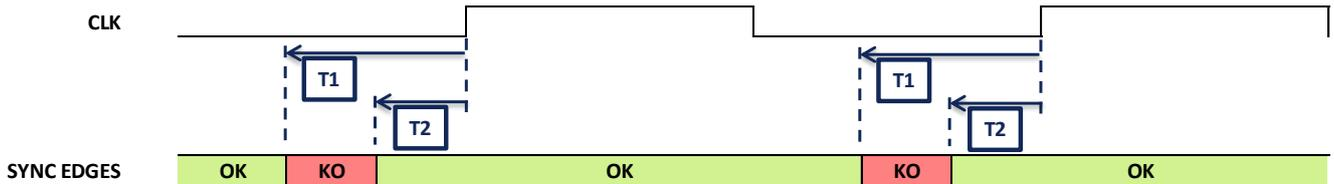

Figure 6: SYNC edges forbidden zone
5. Refer to timing diagram in Figure 6